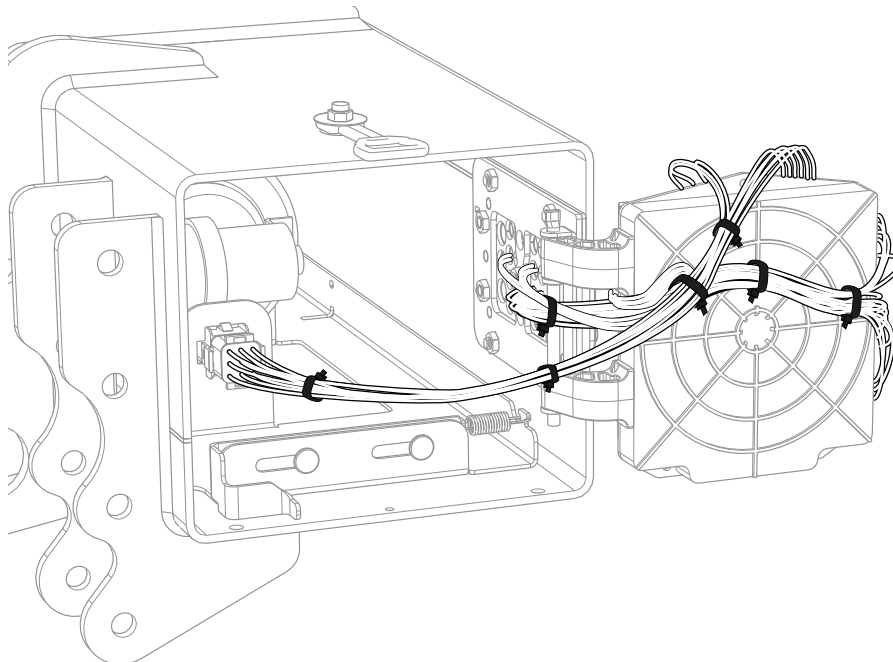

Figure 79. Installing cabling with cable ties
5. Where appropriate, plug in cab switch (CS) and open platform alarm. See Section 6.2.5 - 6.2.7.
6. Route the cabling on the reverse of the control board / relay board and secure it with cable ties. See Figure 79.